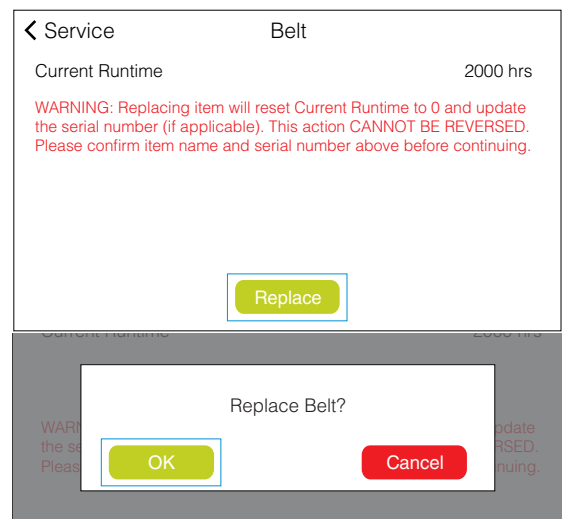

FIGURE 73. PRESS REPLACE; OK
11. On the Belt screen, press **REPLACE**. Press **OK** on the pop-up dialogue box (FIGURE 73).